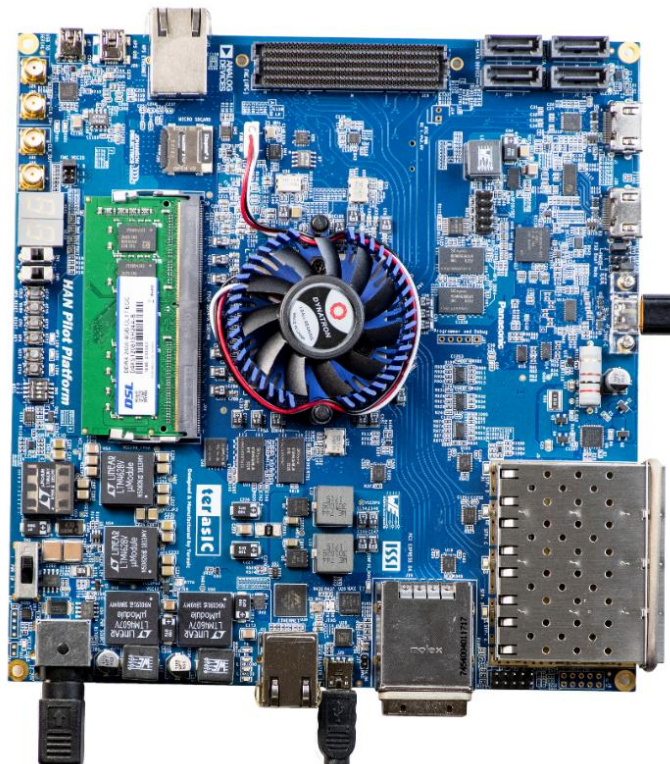

Figure 2-17 USBC FX3 Demo Hardware Setting Up
- Hardware Setting Up, as shown in Figure 2-17.
- Use a Type-C cable to connect the HAN Pilot Platform and a PC (with a Type-C connector). As shown in **Figure 2-17**.